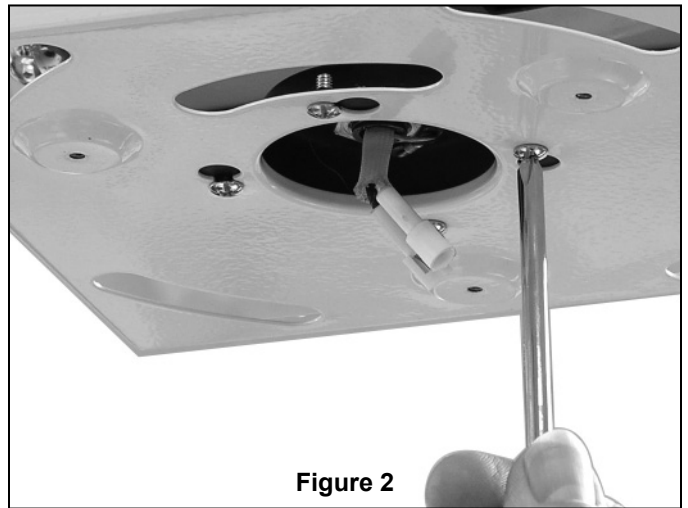

Figure 2
5. Route wires and support cable through Motor Coupling Cover and through opening in Canopy. Position Canopy on fan shown with open side facing up. (Figure 2)
1. Using the $\frac{3}{8}$ " x 2" lag bolt and flat washer, attach safety cable to ceiling joist or wood structural member. The lag bolt will pass through the flat washer, safety cable loop, the junction box and into the building structure (Figure 2). You will first drill a $\frac{1}{4}$ " pilot hole into the building structure to prevent splitting or cracking.
NOTE: Ceiling support cable must be fastened between flat washer and ceiling junction box (Figure 2).
- Slide Receiver Unit into the Hanger Bracket (Fig 2).
4. Attach assembled blades and blade holders to the motor hub using the provided screws. (Figure 2)
2. Be sure to “square” or line up the corners of the Adapter Plate with the corners of the motor housing. Securely attach the Adapter Plate to the motor shaft by tightening the screws. (Figure 2)